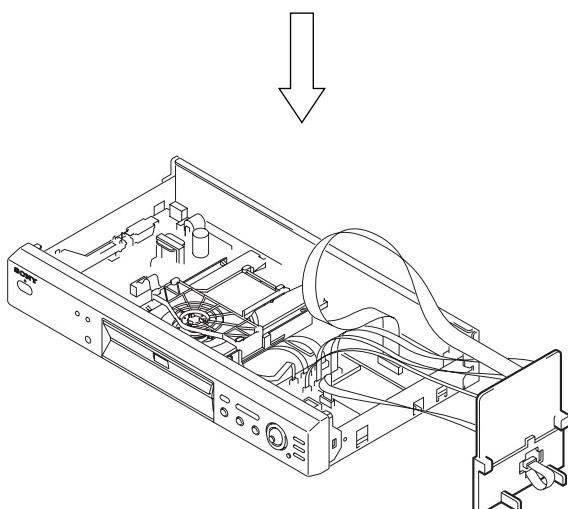

**Fig. 4**
5) Set the four flexible flat cables as shown in Fig. 4.